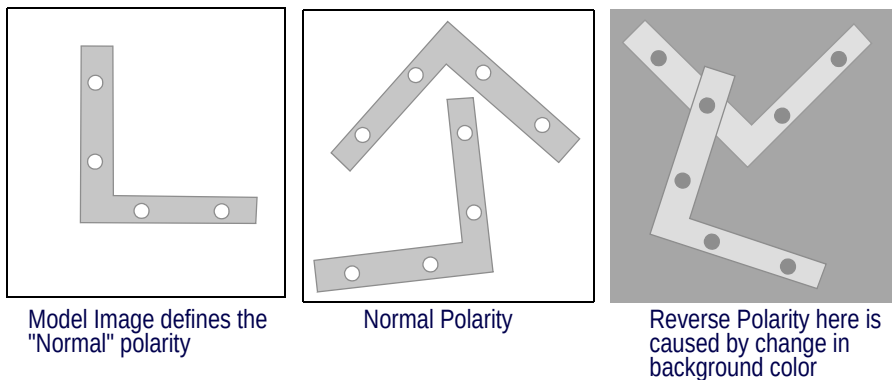

Figure 158 Contrast Polarity - Normal and Reverse
- **Reverse** restricts the Locator to search only for objects having a object-to-background polarity that is inverse to that in the Model. For example, if the model is a dark object on a light background, the Locator searches only for light objects on a dark background (see Figure 158Figure 158).